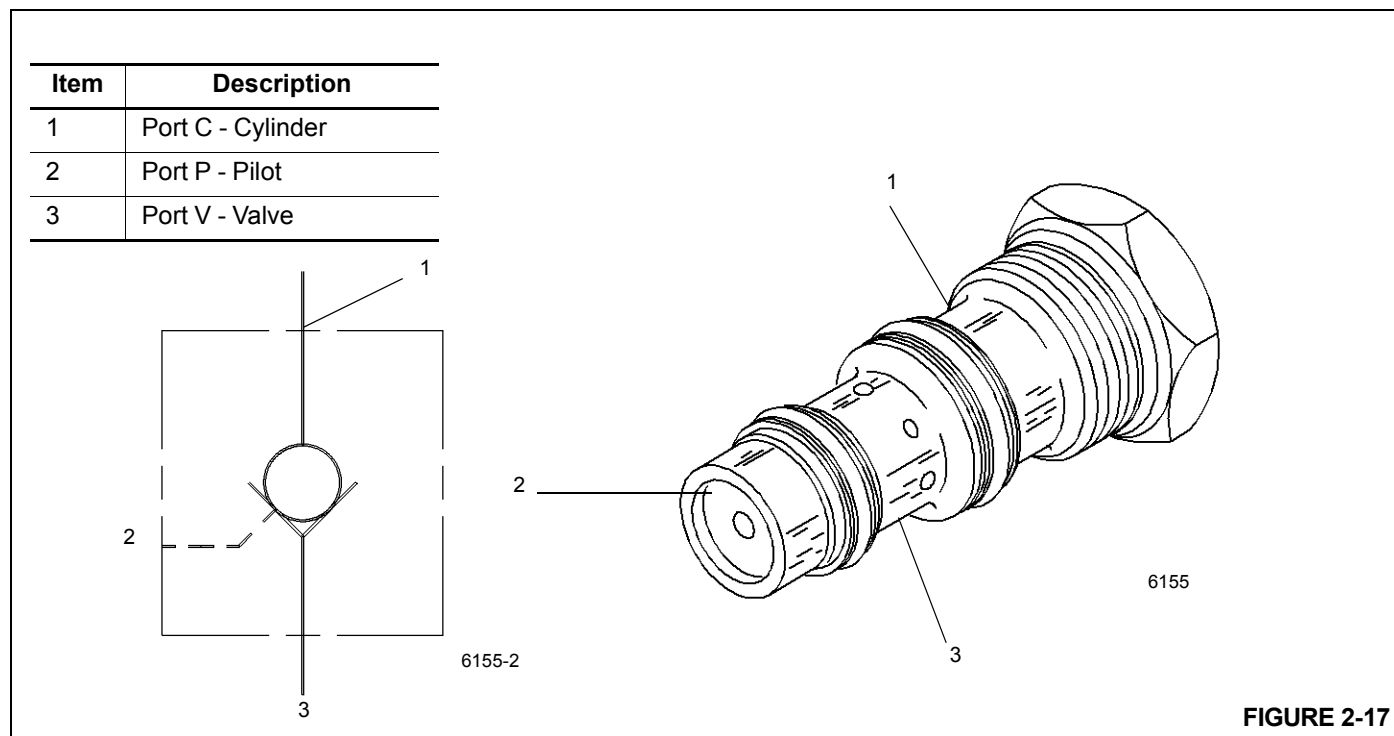

FIGURE 2-17
A pilot operated (PO) check valve is located in each outrigger stabilizer cylinder port block. The check valve functions as a holding valve for the stabilizer cylinder. Oil flow is directed from the "V" port to the "C" ports, while blocking flow in the opposite direction. Flow is reversed from "C" to "V" when pressure pilot oil is applied to the opposite side "V" port (Figure 2-17)